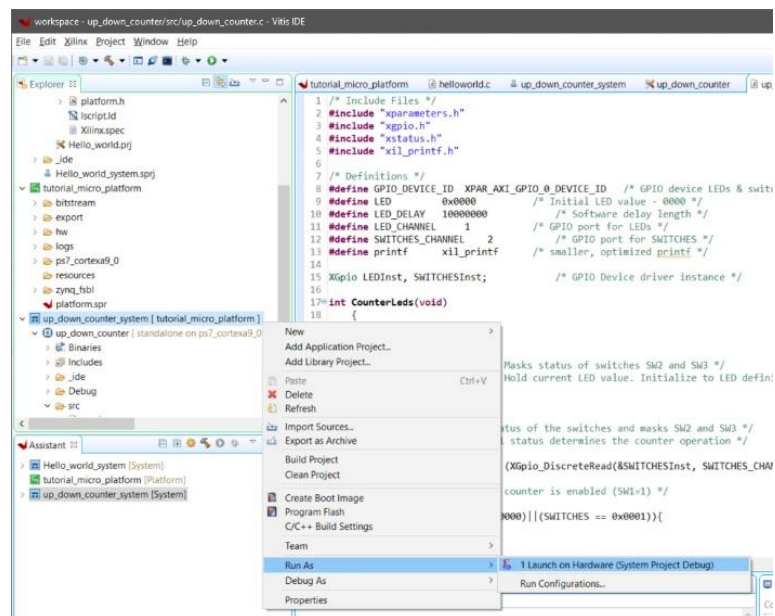

Figure 42
15. Right click and select **Run as → 1 Launch on Hardware (System Project Debug)** (Figure 42)